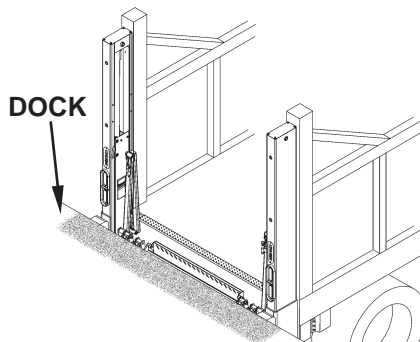

FIG. 23-2
4. Back up vehicle to dock (FIG. 23-2). Now loads can be moved between dock and vehicle without using Liftgate.